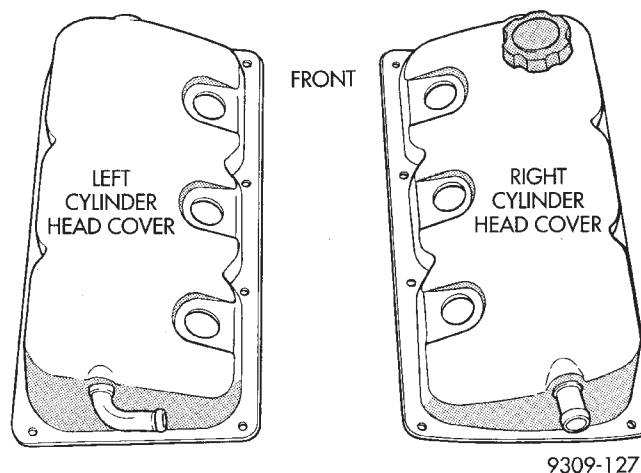

Fig. 34 Cylinder Head Cover Assemblies
- (6) Remove rocker cover bolts and remove cover (Fig. 34).